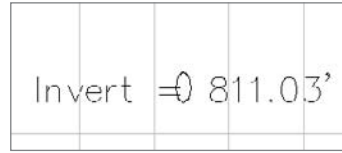

Figure 11.17
- At the **Select** the part in a network section to **label:** prompt, select the pipe shown in the section view. A label will appear, as shown in Figure 11.17. Press **↵** to end the command. Click **Close** to dismiss the Add Labels dialog.